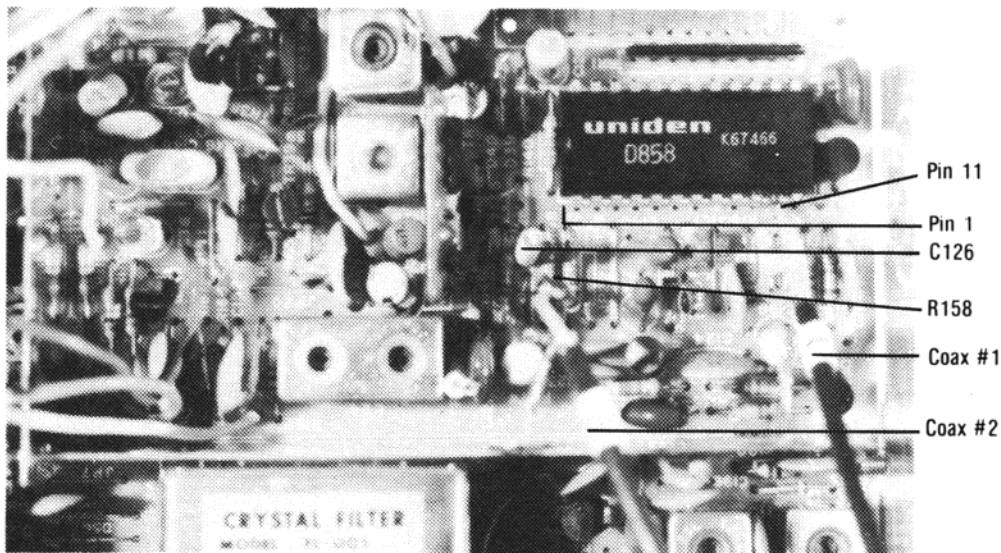

Fig. 9 — Parts Location (D858 SSB Chassis)
2. Locate and identify Pin 11 of the PLL chip—normally close to the channel selector in the transceiver (see Fig. 9). Solder the center of Coax #1 to Pin 11 of the D858 PLL Chip. Use caution and avoid excessive heat as it will damage the PLL Chip.
3. Locate and identify R158 15K ohm resistor that connects Pin 2 of D858 and Pin 3 (see Fig. 9). Remove the 10.240 crystal (X5) from the radio.
4. Remove the one side of R158 that is connected to Pin 2 of the D858 PLL Chip and install the center of Coax #2 to this lead of R158 as per Fig. 9.
5. Connect the ground shields of both coaxes to ground. (Example: see Fig. 9). CAUTION: Avoid excessive lead length.